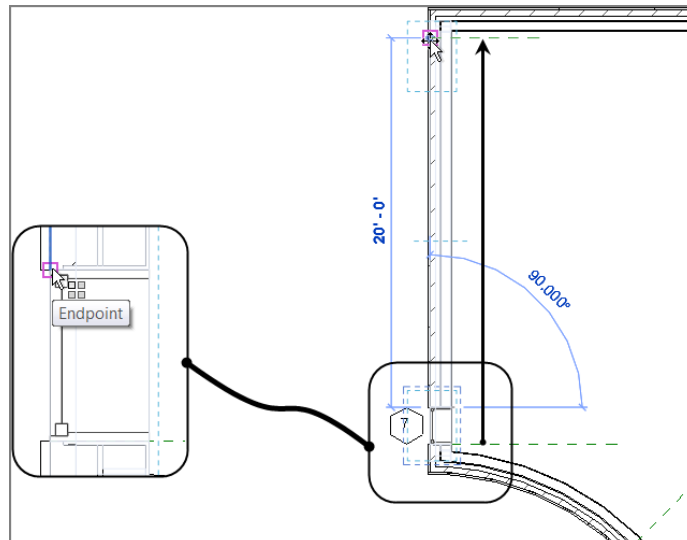

FIGURE 4.22: “Moving” the window to the top reference plane
17. Move your cursor up the wall, and pick a point perpendicular to the top reference plane, as shown in Figure 4.22.